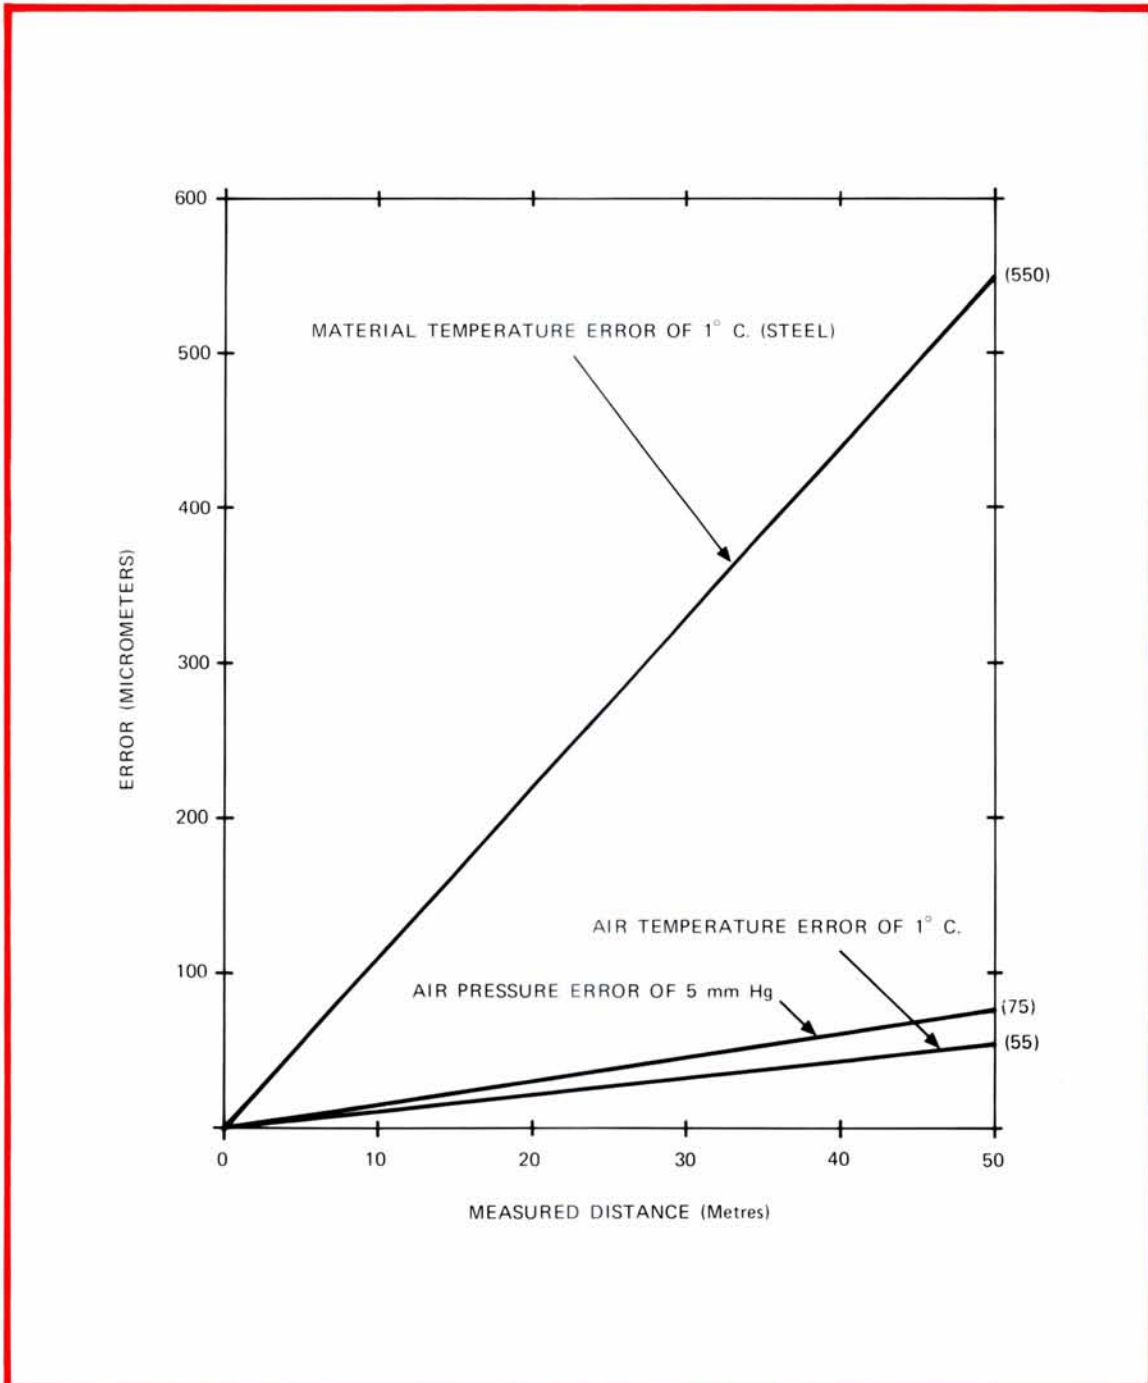

Figure 2-30. Relative Effect of Errors in Atmospheric and Material Temperature Factors
2.25 THERMAL EXPANSION OF THE PART. The previous section discussed compensation to eliminate errors due to a change in the laser wavelength. In addition, it is necessary to compensate for the expansion or contraction of the material of the part being machined or measured as the temperature changes. Strictly speaking, this problem is not related to the Laser Transducer System and occurs regardless of the position sensing transducer used on the machine. It is, however, of such prime importance that it must be understood by the user if he wishes to obtain optimum machine performance. Figure 2-30 shows the relative effect of different errors.